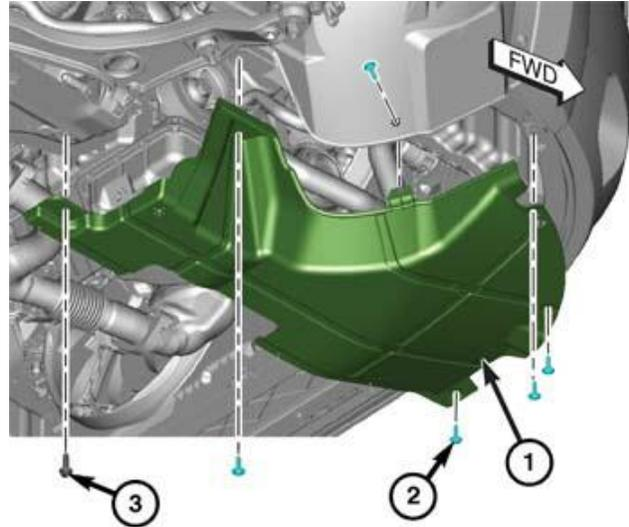

Figure 19 – Right Side Underbody Shield
13. Remove the fastener (3) that secures the right side underbody shield (1) to the cradle (Figure 19).
14. Remove the five fasteners (2) that secure the right side underbody shield (1) to the fascia and wheel liner (Figure 19).
15. Remove the right side underbody shield (1) from the vehicle (Figure 19).
28. Install the right side underbody shield (1) to the vehicle (Figure 19).
29. Install the five fasteners (2) that secure the right side underbody shield (1) to the fascia and wheel liner, tighten securely (Figure 19).
30. Install the fastener (3) that secures the right side underbody shield (1) to the cradle, tighten to 20 N·m (15 ft lbs). (Figure 19).